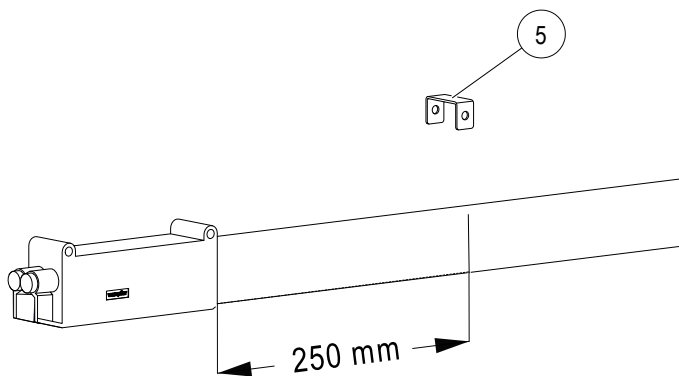

Fig. 18: Push U-plate (Item 5) onto conductor rail.
- Center the hole of the U-plate (Item 5) on the marked position of the conductor rail (see Fig. 18).